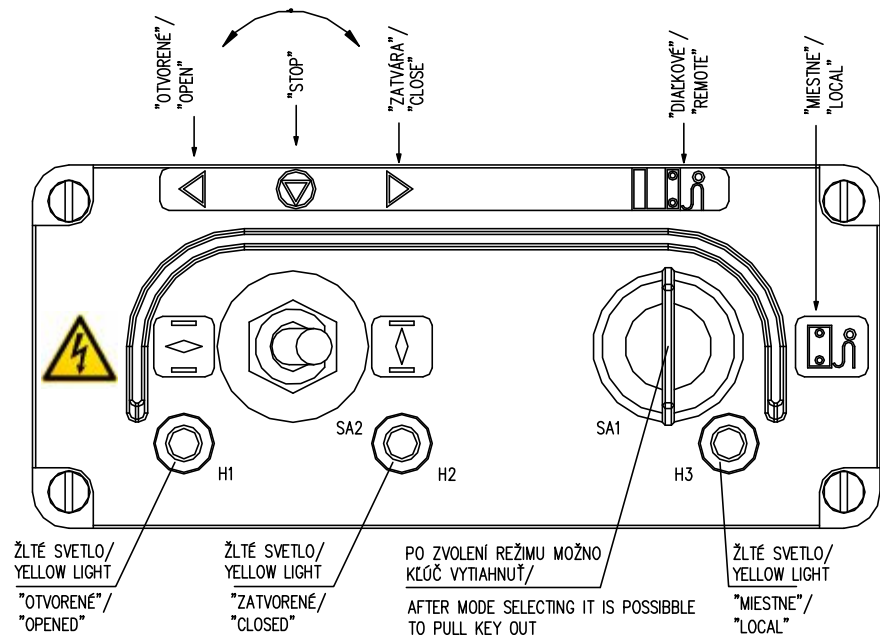

Fig.14
4.9 Local electric control (Fig.14)